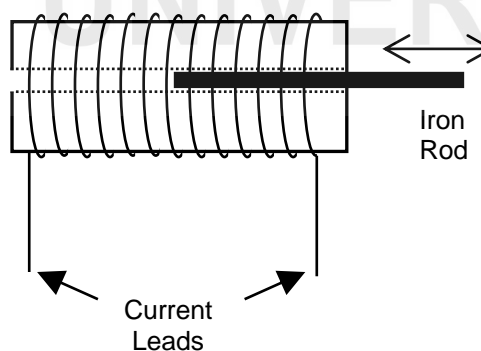

Fig. 2.5: Solenoid coil with current leads. An iron rod specimen can be inserted into the solenoid.
A solenoid is a helix of wire wound around a 25 to 30 cm long hylem tube. More than one layer of turns can be wound on the tube. A rod of the given specimen can be easily inserted so that it is along the axis of the solenoid, as shown in Fig. 2.5.
6. Now insert the unmagnetised specimen (iron rod) inside the solenoid completely (Refer to Fig. 2.5). Switch on the current source and gradually increase the current through the solenoid to the saturation value, say, 3A. Note the deflection in the magnetometer. In no case should the deflection exceed 70° , which corresponds to saturation value of solenoid current. If the deflection is greater than this value, you should adjust the distance between the magnetometer and the solenoid. To do so, you should slowly reduce the solenoid current to zero. Remove the specimen from the solenoid and keep it far away from the set up. Increase the distance of the solenoid from the centre of the magnetometer by a few centimeters and repeat Steps 5 and 6.